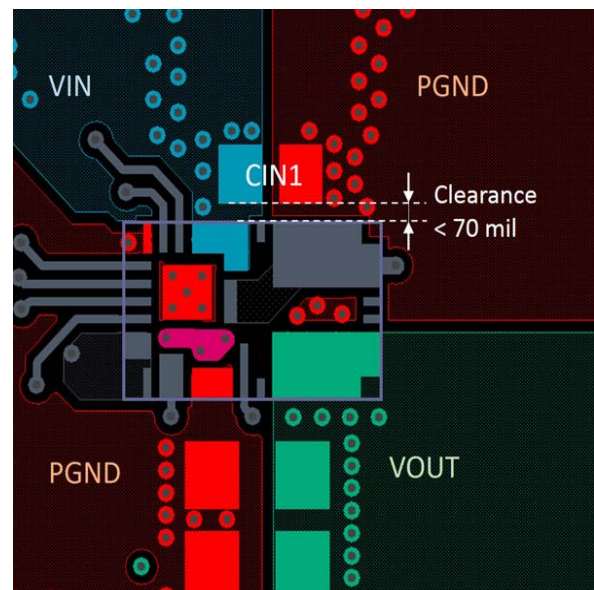
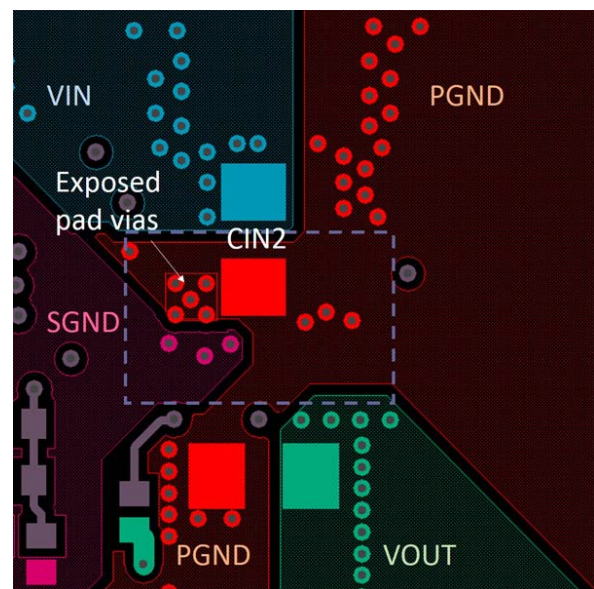

FIGURE 39. LAYOUT EXAMPLE - TOP LAYER
FIGURE 40. LAYOUT EXAMPLE - BOTTOM LAYER
A few layout considerations need to be taken into account in order to achieve proper operation of ISL8202M. An optimized layout design also allows the module to have lower power loss and good thermal performance. An illustrative layout example is shown in Figures 39 and 40. Key points are listed in the following:
- Place the input ceramic capacitors as close as possible to the module input. These ceramic capacitors are used to minimize the high frequency noise by reducing parasitic inductance of the switching loop. Optimized placement of these capacitors will not only lead to less switch node ringing but also minimize the noise seen by the module to insure proper operation. It is recommended to use X5R or X7R ceramic capacitors with minimum total capacitance of 44µF at module input. It is a **MUST** that one of the input capacitors (C_{IN1}) with no less than 3.3µF capacitance should be placed on the same layer (assuming top layer) as module and within less than 70 mil clearance to module input (refer to Figure 39). For capacitors on the bottom layer, it is recommended to have one (C_{IN2}) placed from VIN to PGND copper close to exposed pad (Pad 20) vias (as shown in the layout example in Figure 40).
- Use a separate SGND ground copper area for components that are connected to signal ground. Connect SGND copper to module Pad 22 through multiple vias (refer to Figure 40). Because Pad 22 is connected to module internal PGND at a single location, the SGND copper area and PGND plane on the PCB can be left separated.